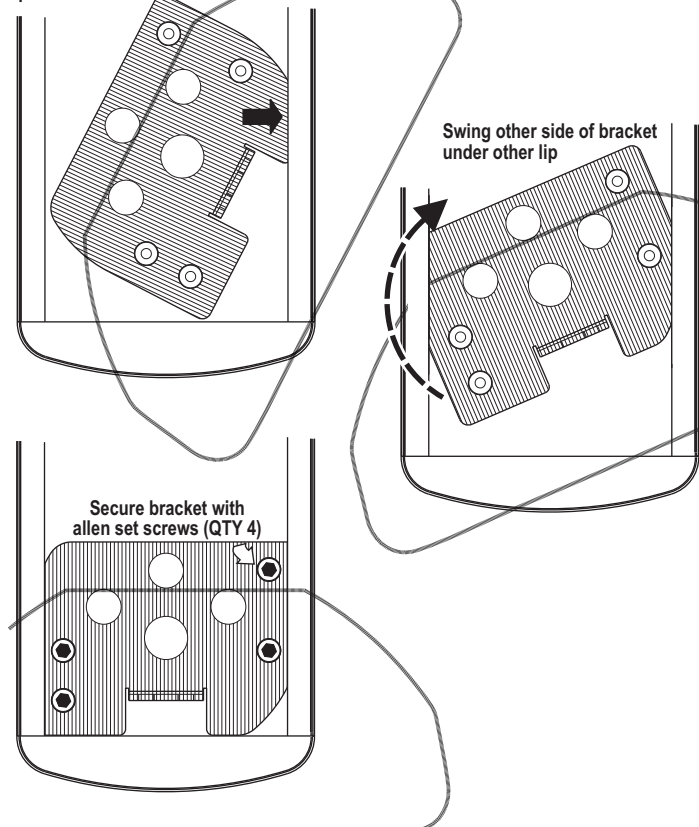

Fig. 2
2. Place the bracket into the track on the bottom of the extruded base of the lightbar and twist it into position (Fig. 2).
3. Slide the bracket to the outer end of the base extrusion and secure the bracket to the extrusion using the four 1/4 - 20 X 1/2 ALLEN SET SCREWS (Fig. 2). Repeat steps 1 - 3 for other side of lightbar.